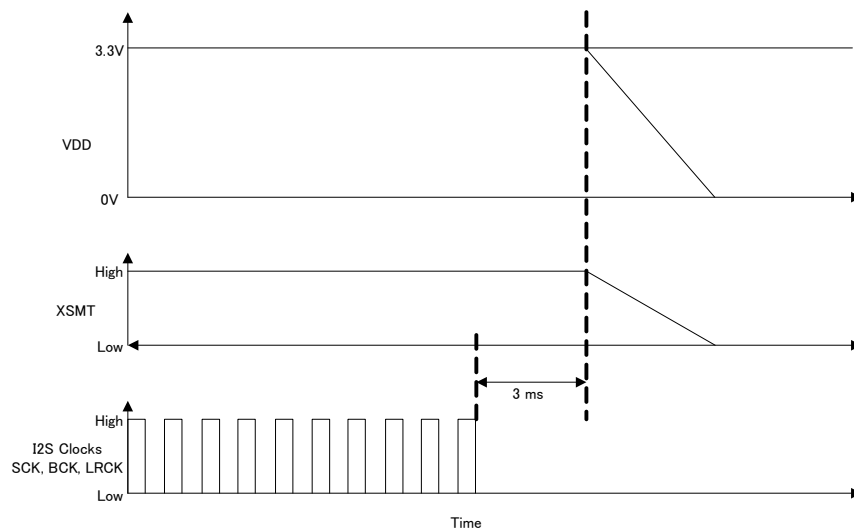

Figure 77. Stop I²C Clocks
2. Stop I²S clocks (SCK, BCK, LRCK) 3 ms before powerdown as shown in Figure 77.